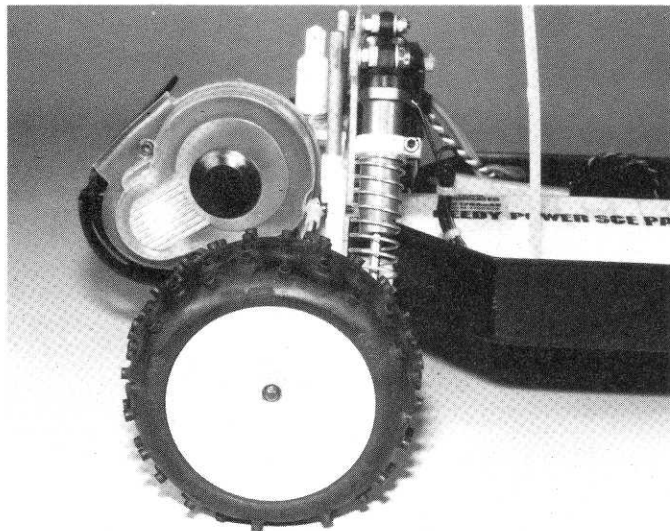

Fig. 129
□ **Fig. 129** Slip the wheels on the rear axles. If they go on tight, screw them on the axle making sure the slot in the wheel aligns with the pin in the axle. Screw the locknut on. Some rear wheels will go on the axles a little tighter than others. When you're ready to remove the wheel, remove the nut, hold the wheel from the backside and tap the end of the axle until the wheel moves a little bit. Then you can simply unscrew it off the axle.